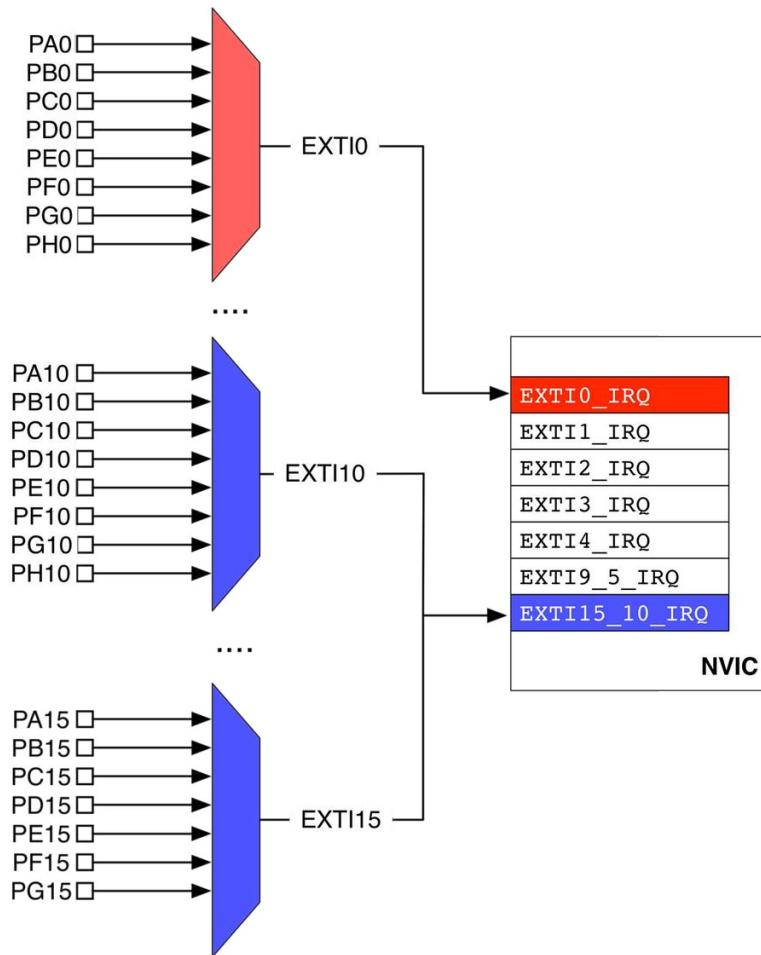

Figure 3: The relation between GPIO, EXTI lines and corresponding ISR in an STM32F4 MCU
**Figure 3** shows EXTI lines 0, 10 and 15 in an STM32F4 MCU. All `Px0` pins are connected to `EXTI0`, all `Px10` pins are connected to `EXTI10` and all `Px15` pins are connected to `EXTI15`. However, EXTI lines 10 and 15 share the same IRQ inside the NVIC (and hence are serviced by the same ISR)3.